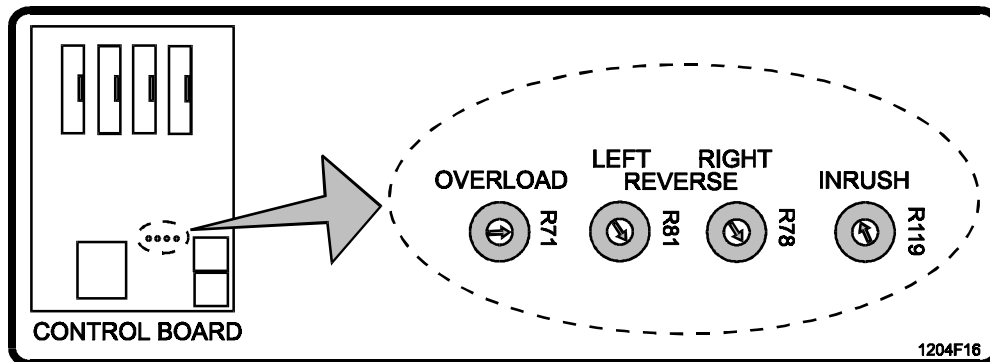

Figure 9. Gate Sensitivity Adjustments Location.
- ◆ Before starting the adjustments, verify that the Overload pot is set to 3:00 o'clock, the Left and Right reverse pots are set fully clockwise, and the Inrush pot is set to the 11 o'clock position (see Figure 9).